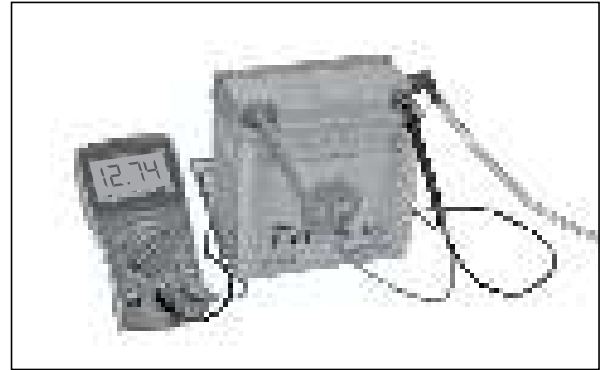

Fig. 5.101
- The stable consecutive readings showing 12.8 Volt or more with 30 minutes of interval. (Fig. 5.101)